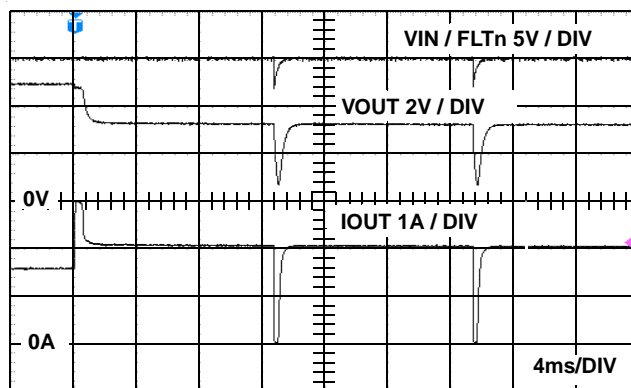

FIGURE 19. AUTO RESET OPERATION
Initially as voltage is applied to VIN, the pull up resistor ( $R_{pu}$ ) provides for pull up to VIN on both the ENABLE pin asserting the output once  $V_{IN} > 2.5V$  and on the FLTn pin. Once turned on and an overcurrent (OC) condition occurs the IC provides CR protection for 10ms and then the FLTn pin pulls low through  $R_{pu}$  and also pulling the ENABLE low thus resetting the device fault condition. At this time the  $R_{pu}$  charges the cap and the voltage on the ENABLE / FLTn node rises until the ENABLE > 2.0 and the output is asserted on once again. This automatic reset cycle will continue until the OC fault no longer exists on the output. After several seconds in this mode of operation the IC thermal protection invokes adjusting the timing of the on-off cycle to prevent excessive thermal dissipation in the power switch protecting itself and surrounding circuitry. See Figure 19 for operation waveform.